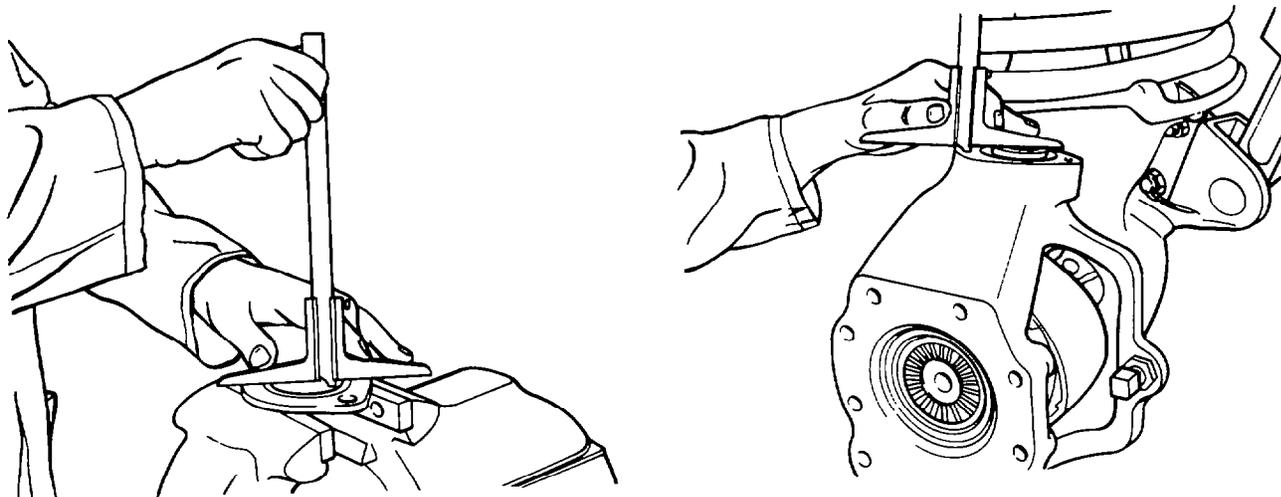

Figure 69 Pre-load (shim) Measurements
depth between the installed spacer ring and the contact surface of the steering knuckle; make a note of the gauge reading (see Fig 69).
- g. Measure the depth of the groove in the end plate (see Fig 69); the difference between the two measurements, plus the permissible pre-load factor (0.2 mm to 0.3 mm), determines the thickness of the shim(s) to be installed.